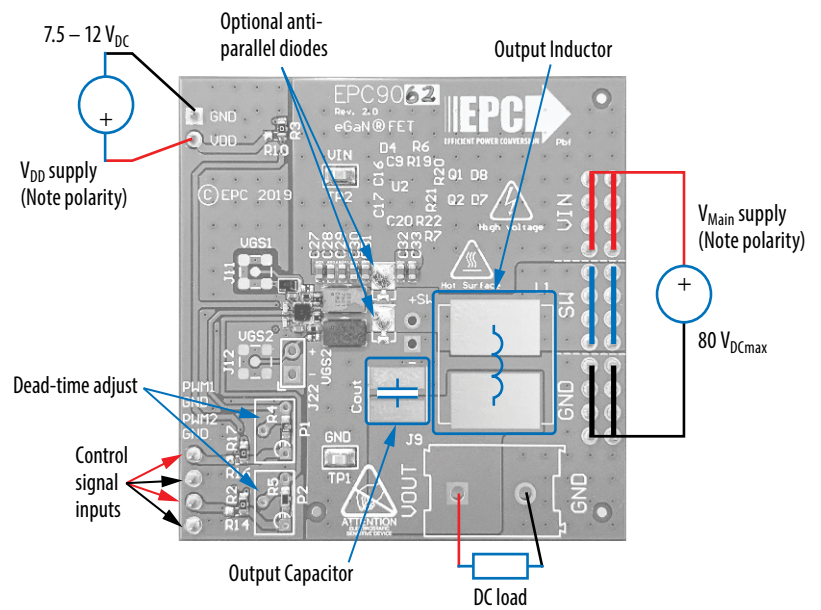
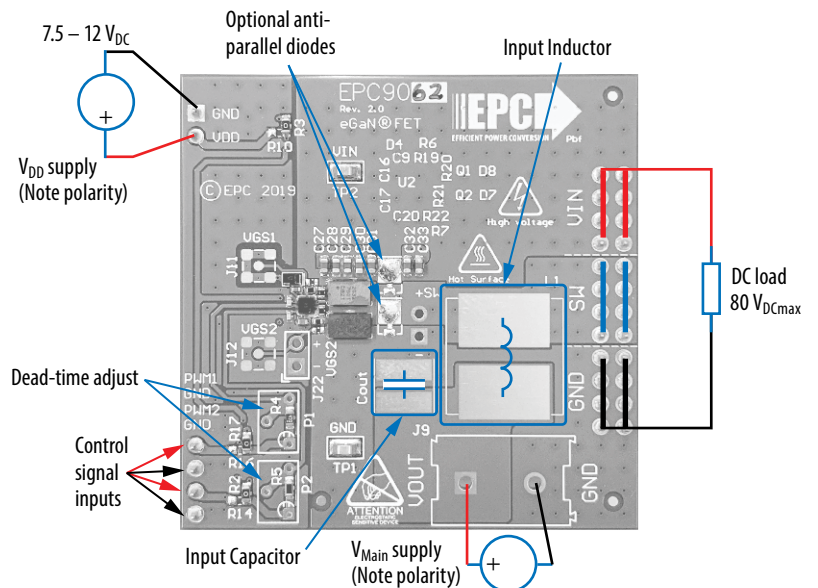

Figure 2: Buck configuration
Figure 3: Boost configuration
The half bridge development board EPC9062 is easy to set up as buck or boost converter. Refer to figure 2 for buck converter configuration and measurement setup, and figure 3 for boost converter setup, and follow the procedure below:
2. With power off, connect the switch node (SW) of the half bridge (J3, J4) to your circuit as required (half bridge configuration). Or use the provided pads for inductor ( $L_1$ ) and output capacitors ( $C_{out}$ ), as shown in figure 2.
1. The inductor ( $L_1$ ) and input capacitors (labeled as  $C_{out}$ ) can either be soldered onto the board, as shown in figure 3, or provided off board. Anti-parallel diodes can also be installed using the additional pads on the right side of the EPC2032 FETs.